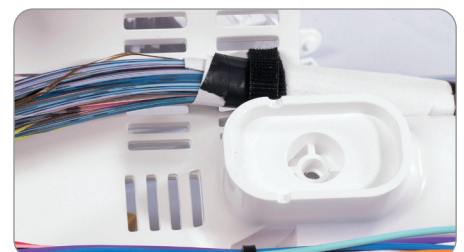

Figure 21
6. Secure inbound fibers or tubes with Velcro or tie wraps near spline of basket and outbound fibers should be secured closer to the outside of the basket. (Figure 21)